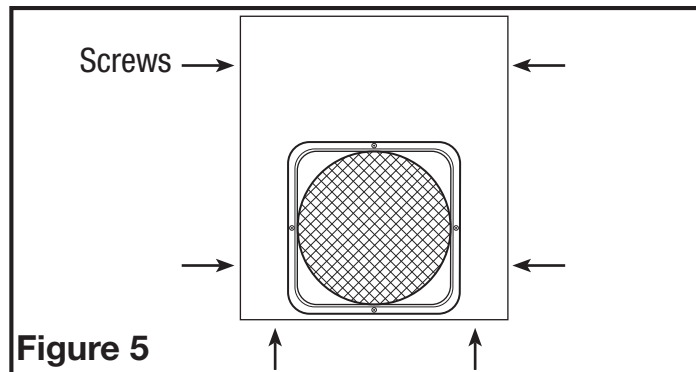

Figure 5
8. Connect the heater unit to the main unit using the 6 screws provided. There are two screws on each side of the main unit (**Figure 5**).